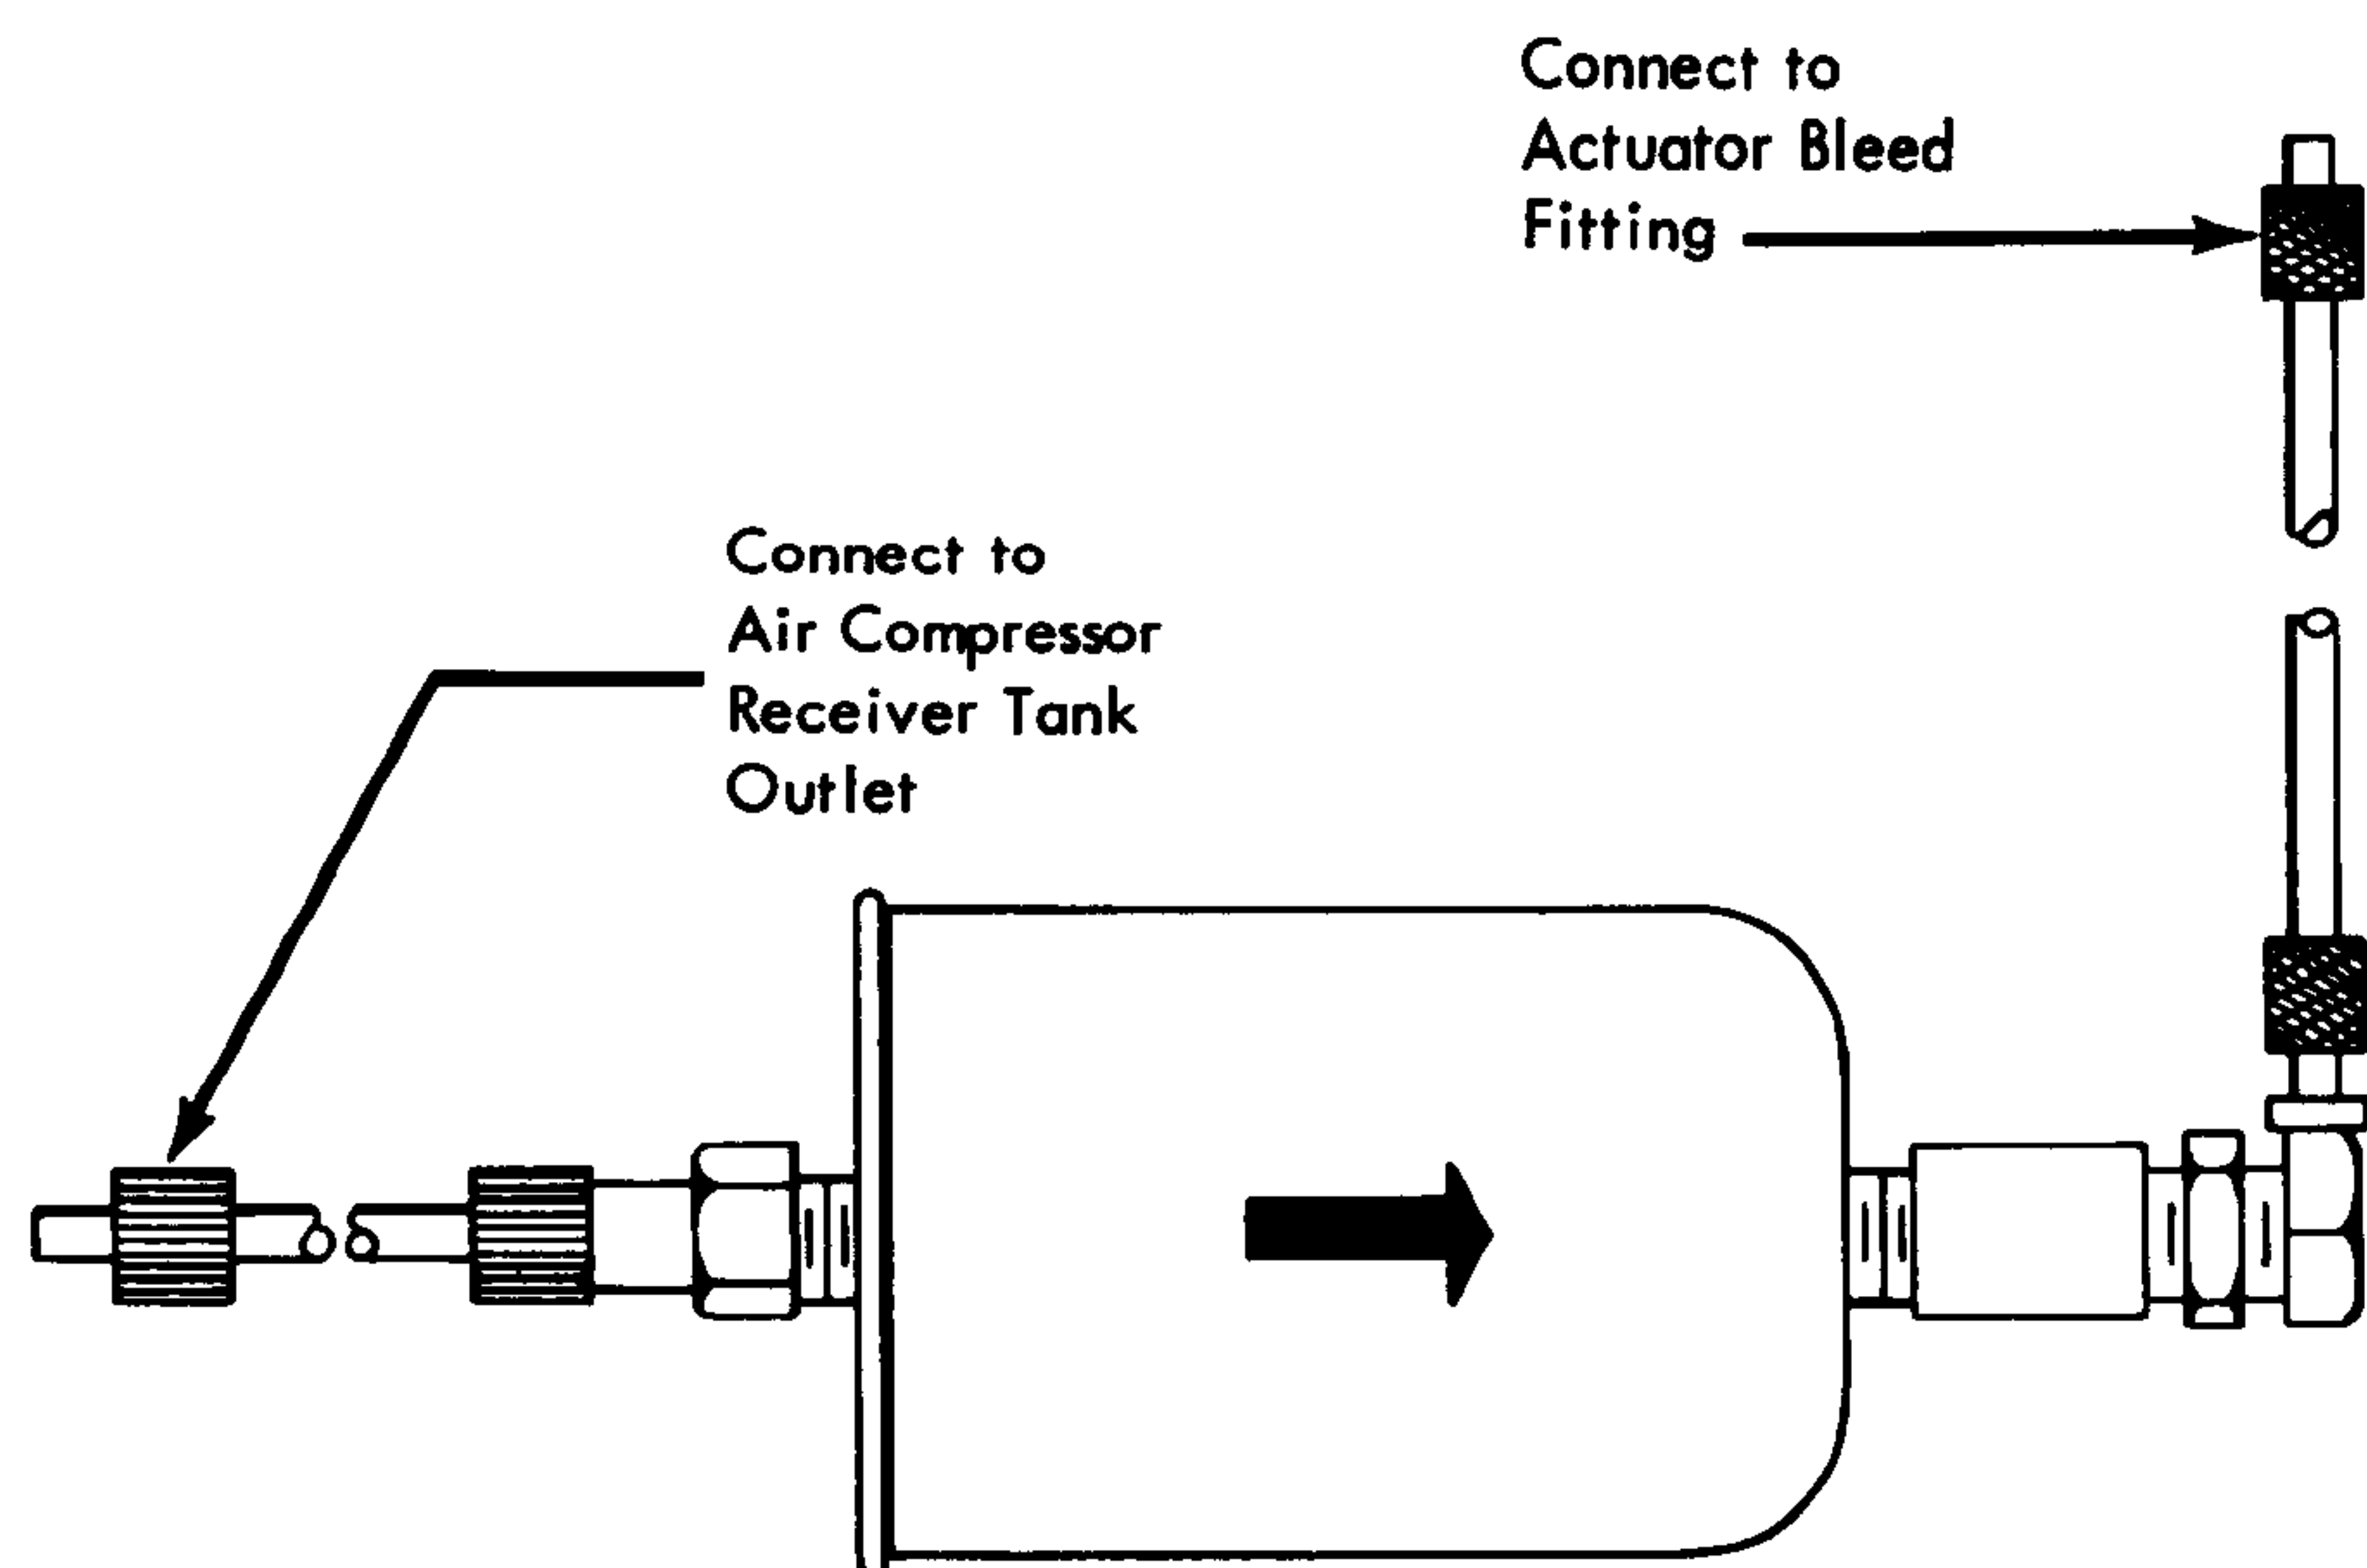

Figure 2-43. Air Filter, P/N 2115348
- d. Connect larger hose of air filter assembly P/N 2115348 (Figure 2-43) to air pipe outlet.